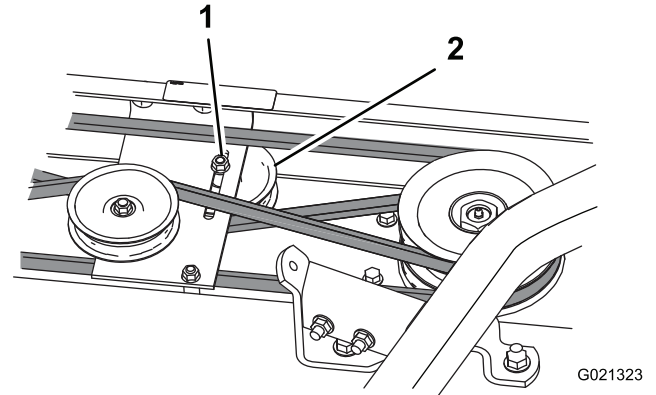

Figure 24
3. Loosen idler pulleys to the release tension of the belts (Figure 24).
4. Remove the carriage bolts, lock washers and nuts holding the gear box in place. Lift the gear box off the mounting plate and lay it on top of the cutting unit (Figure 24).
7. Tension the belt by levering the idler pulley against the belt and tighten the idler pulley flange nut (Figure 24).